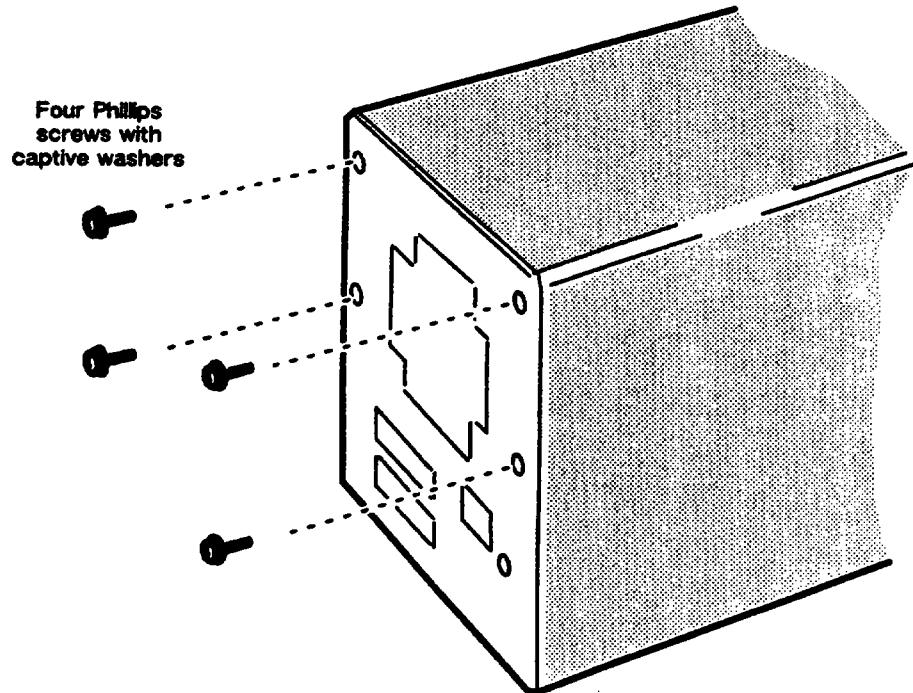

Figure 3-3 Attaching the Cover to the Base Housing Assembly
3. Attach the cover with the four Phillips screws and washers, as shown in Figure 3-3.